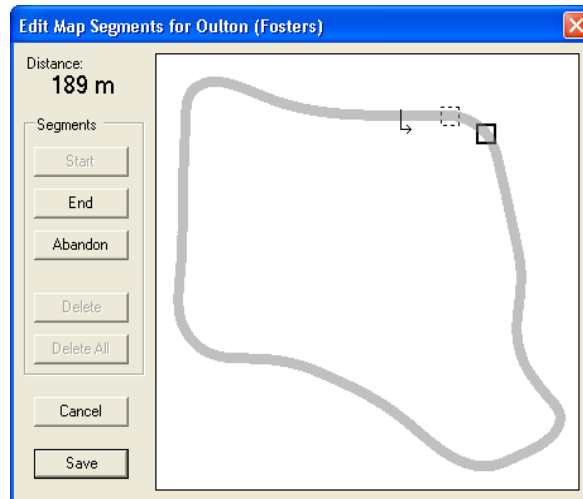

Figure 21 - Edit Map Segments Dialog (Defining a Segment)
3. Mark the start point of the segment by clicking on the map and then clicking **Start**. The start point of the segment is marked with a square drawn in a dashed line (see Figure 21). The **Start** button is disabled and the **End** and **Abandon** buttons are enabled.